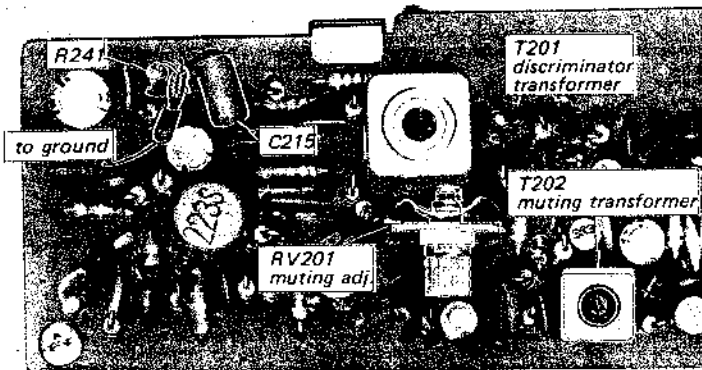
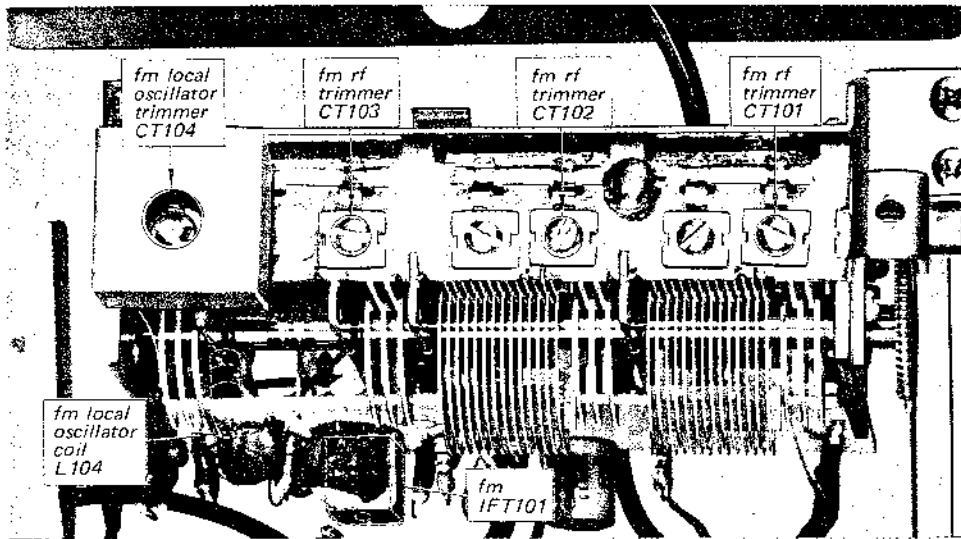

Fig. 3-3. Interruption of afc circuit and parts location
Fig. 3-5. Adjustment parts location
5. Short the connection point of R241 and C215 (AFC circuit) to ground as shown in Fig. 3-3.
3. Turn the core of transformer IFT101 or T201 (bottom core) (see Fig. 3-3 or Fig. 3-5) with the alignment tool to obtain maximum output.
3. Short the connection point of R241 and C215 (AFC circuit) to ground as shown in Fig. 3-3.
3. Turn the top core (secondary side) of discriminator transformer T201 (see Fig. 3-3) with a hex-head alignment tool to obtain a null-point reading on the TUNING meter. If the discriminator transformer (T201) is not aligned correctly, some deviation on the TUNING meter will be observed.
2. Turn RV201 (see Fig. 3-3) fully clockwise on the fm i-f amp board.
4. Short the connection point of R241 and C215 (AFC circuit) to ground as shown in Fig. 3-3.
1. Short the connection point of R241 and C215 (AFC circuit) to ground as shown in Fig. 3-3.
station. If the dial-accuracy deviation exceeds this limit, turn the local-oscillator coil L104 (see Fig. 3-5) slightly until optimum dial calibrations is obtained.
4. Tune the receiver to the highest-frequency station in your locality. If the dial-calibration error is excessive, adjust local-oscillator trimmer CT104 (see Fig. 3-5) to obtain maximum calibration accuracy.